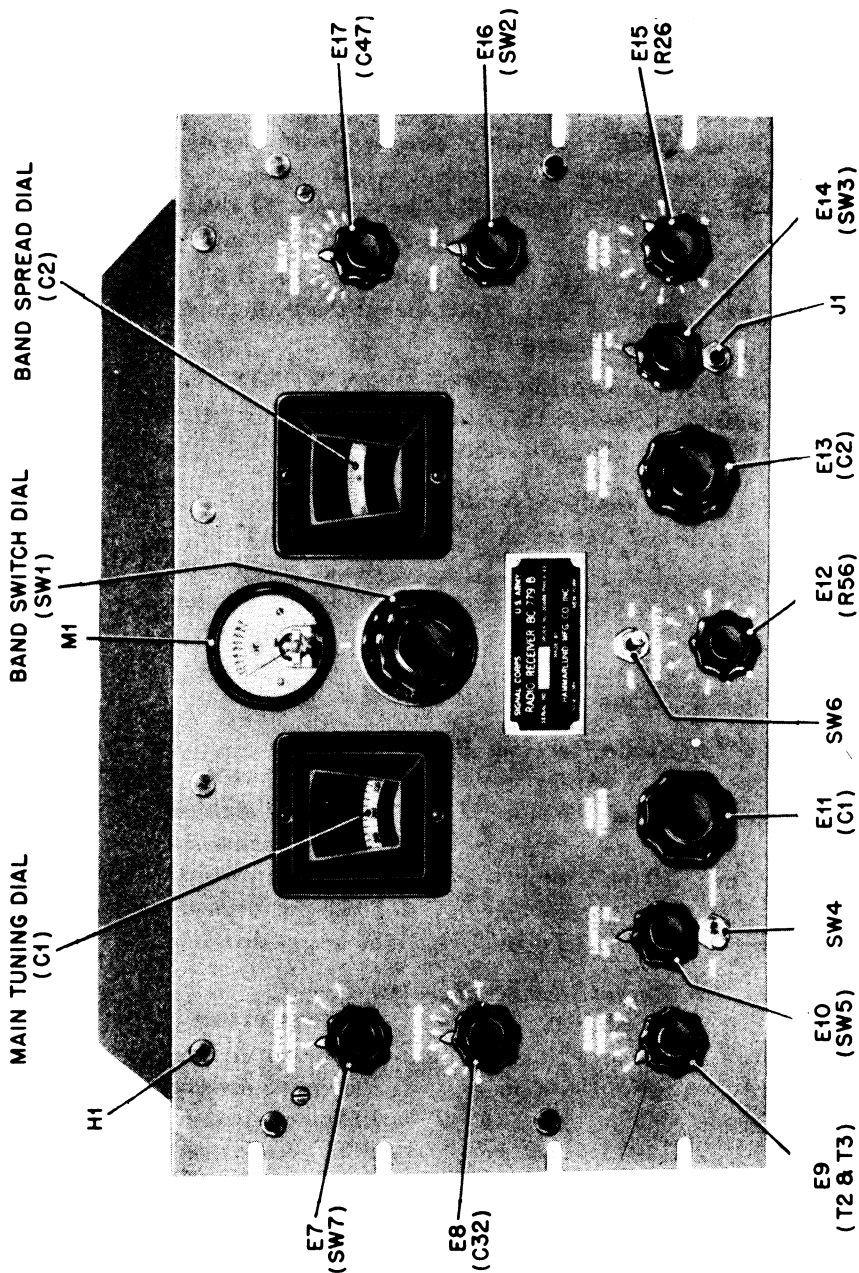

Figure 4. Radio Receiver BC-779-B
4. FREQUENCY BANDS.—The five frequency bands are marked in aluminum on the band-switch dial (FIG. 4). A large number of earlier models of this receiver already in the field can be identified only by the different frequencies shown on this dial. You can get the frequency band you want by turning the knob right or left until the band is on top (just beneath the up-and-down line above the dial).
b. Besides the markings on the band-switch dial (FIG. 4), a mask with windows shows a calibrated scale on the MAIN TUNING dial (FIG. 4) to correspond with the band selected by the band switch. This operation is automatic—when you turn the band switch, the mask on the MAIN TUNING dial turns with it since they are geared together.
c. Band Spread.—A separate BAND SPREAD control (E13) gives you simplified tuning over a narrow range of frequency. The BAND SPREAD dial (FIG. 4) has a scale reading from 0 to 100 through about 170° . If set at 100, the frequency covered by moving the dial will extend from that shown by the setting of the MAIN TUNING dial to some lower frequency, depending on how far the BAND SPREAD dial is moved. The capacity of the band-spread capacitor (C2) increases as the scale approaches zero (0).
(1) To cover a specific range with the BAND SPREAD dial, first set the MAIN TUNING dial at the high-frequency end of the band you want to spread.
d. Earphones.—Plug your Headset HS-30 into the PHONES jack (J1, FIG. 4) in the lower right hand corner of the front panel of the receiver. Or you can connect the headset to the screw terminals marked PHONES on the rear edge of the chassis.
f. Earphone Operation.—For earphone operation, plug your earphones into the PHONES jack (J1, FIG. 4) provided for them on the front panel. Or you can connect the earphones to the PHONES terminals on the rear of the receiver chassis. These terminals are connected in parallel with the jack on the front panel.